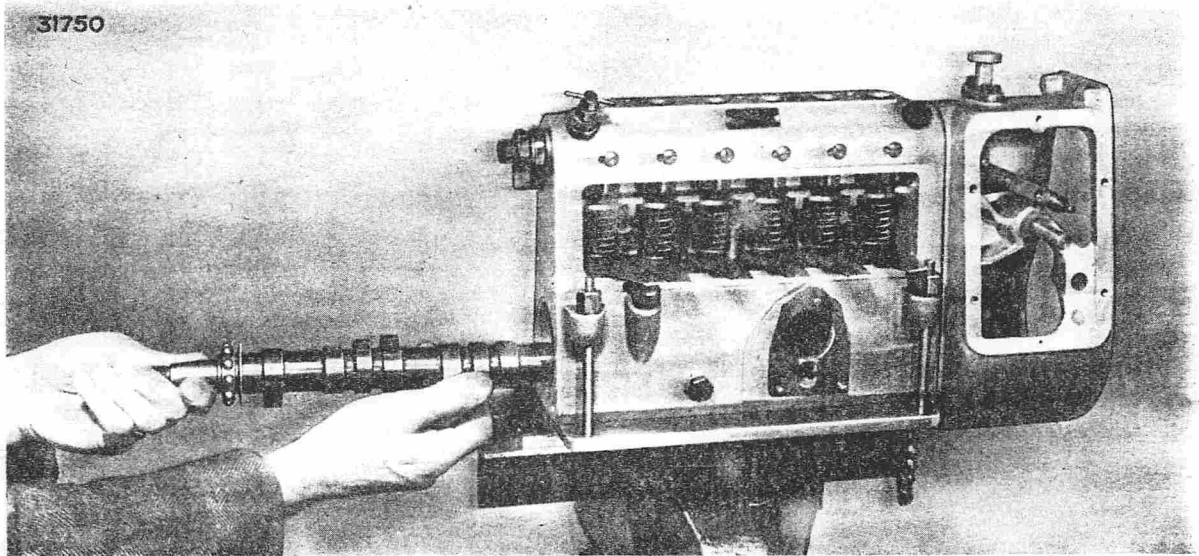

FIG. 28. REMOVING FUEL-PUMP CAMSHAFT
7. Remove the bearing end plate and withdraw the camshaft (Fig. 28). The camshaft has a chisel mark at the driving end to ensure that it is replaced correctly.